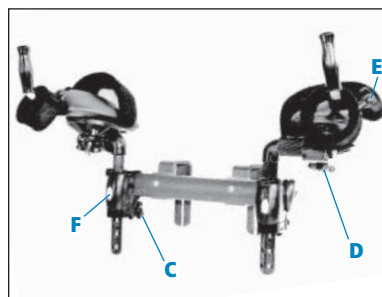

Figure 10b
Loosen the clamp knob (C) and pull it down to free the curved metal piece. Slip the clamp over the oval tube of the mounting bracket with the main part of the clamp to the side of the mounting bracket. Close the curved metal piece, pull the knob up, and tighten it securely (see Figure 10b).